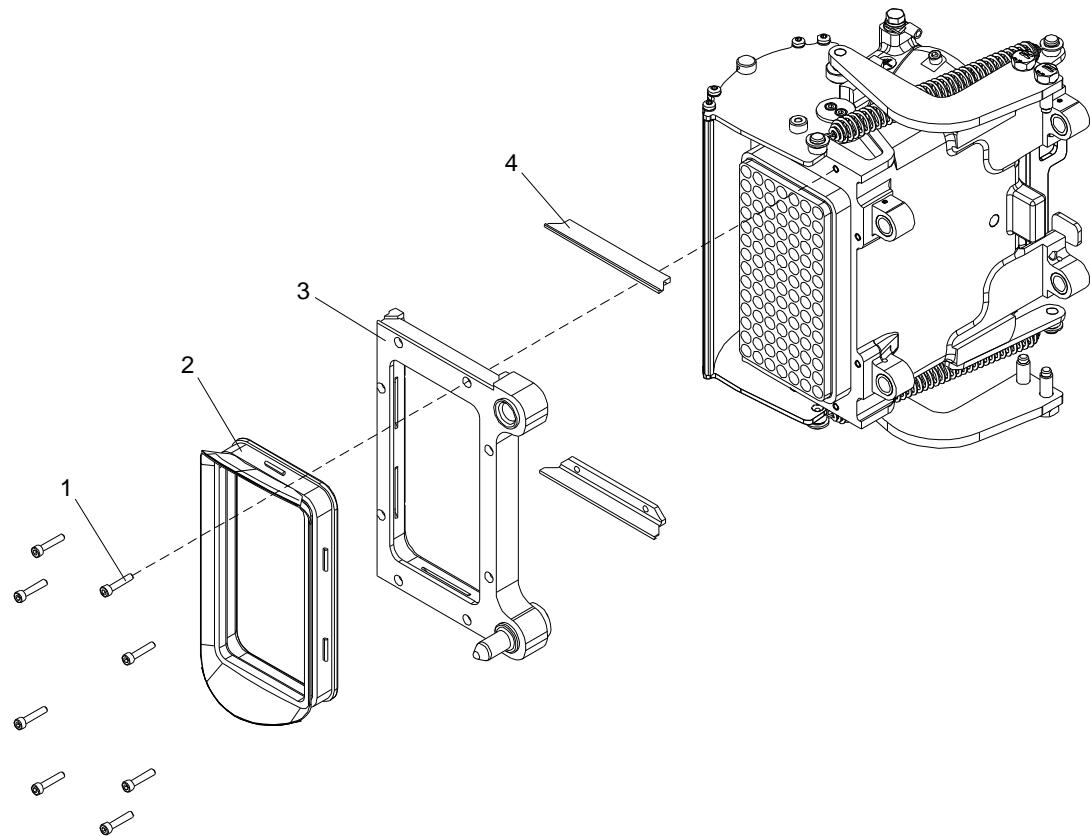

Figure 7-17: Replacement of Seal
3. Remove the frame (3) and sealing strips (4) by removing screws (1). See Figure 7-17.
4. Remove the seal (2) from the frame (3).
2. Fit the seal (2) to the frame (3). See Figure 7-17.
3. Fit the sealing strips (4) and frame (3) and mount screws (1).